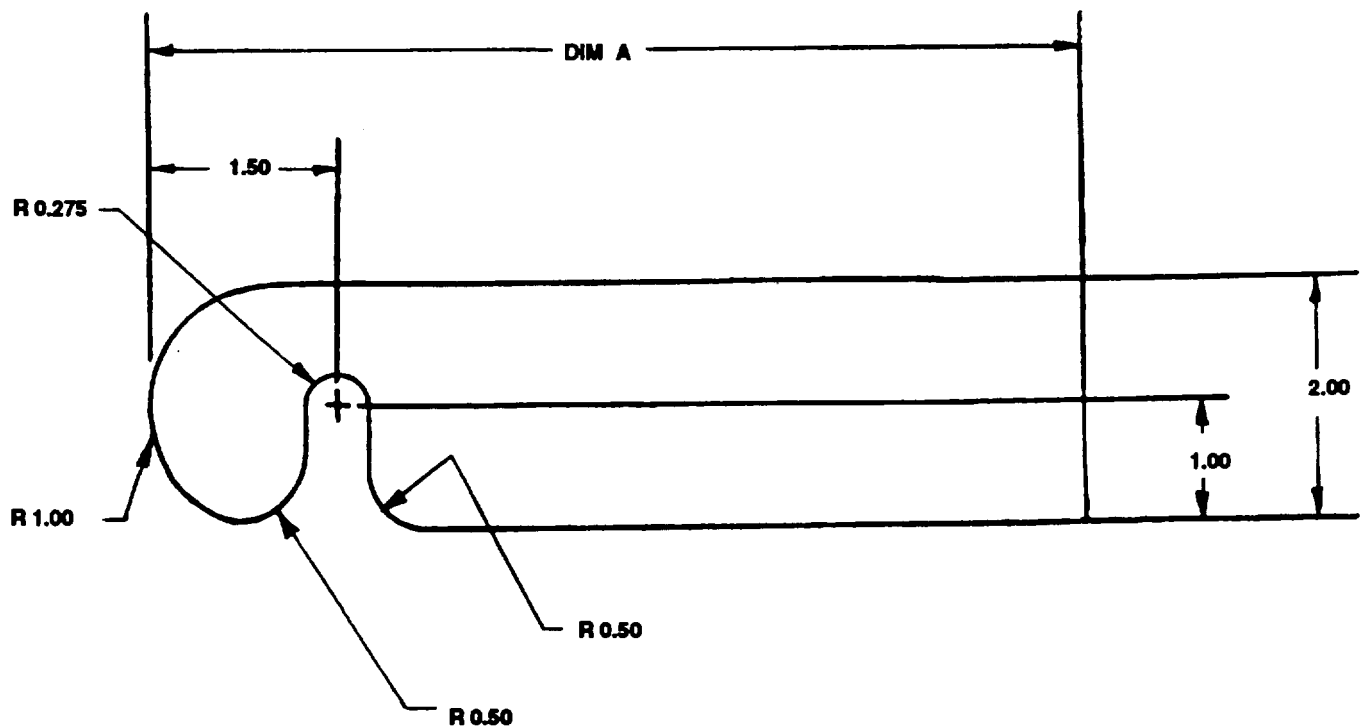

Figure G-10. Upper Mounting Block
2. Make from 0.375 in. metal bar, NSN 9510-00-188-1715, P/N ASTM A36, according to specifications in Table G-5 and Figure G-10.